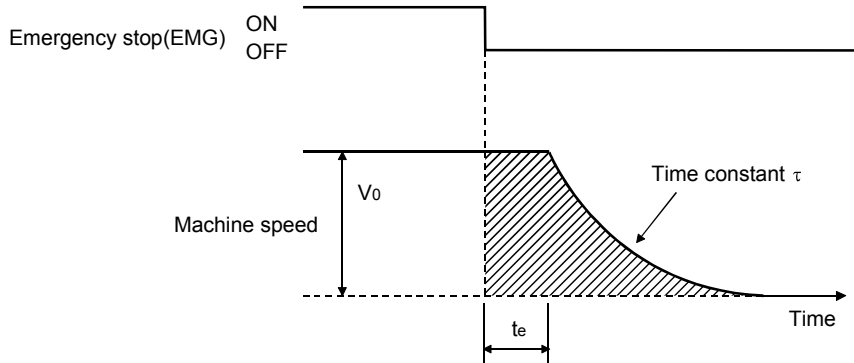

Fig. 11.3 Dynamic brake operation diagram
Fig. 11.3 shows the pattern in which the servo motor comes to a stop when the dynamic brake is operated. Use Equation 11.2 to calculate an approximate coasting distance to a stop. The dynamic brake time constant  $\tau$  varies with the servo motor and machine operation speeds. (Refer to (2) (a), (b) of this section.)